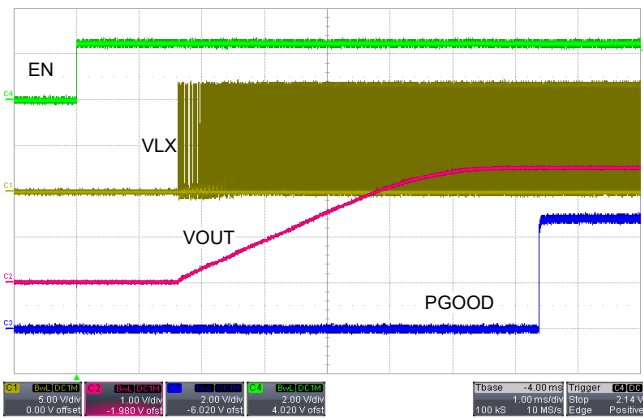
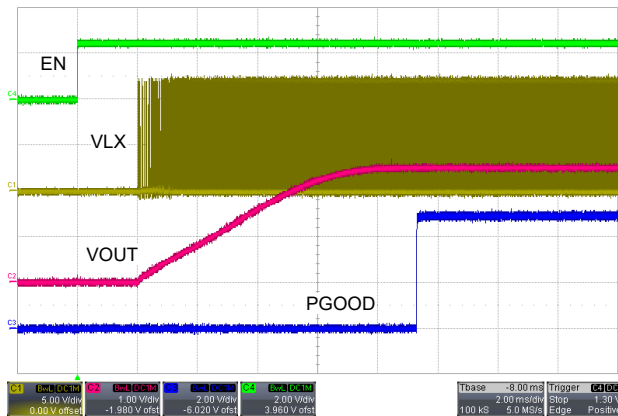

Figure 34. ENABLE to LX and VOUT to PGOOD Turn-On 500kHz
Figure 35. ENABLE to LX and VOUT to PGOOD Turn-On 300kHz
During soft-start, the ISL73007M monitors for overvoltage (OV) and over-temperature (OT) faults and remains idle if either fault is active. The soft-start time is dependent on the operating switching frequency during startup (see Figure 32). There is a delay from enable active to LX activity during which the ISL73007M internal circuitry is biased. This delay time is frequency dependent, typically 2ms for 300kHz and 1.3ms for 1MHz (see Figure 34 and Figure 35).